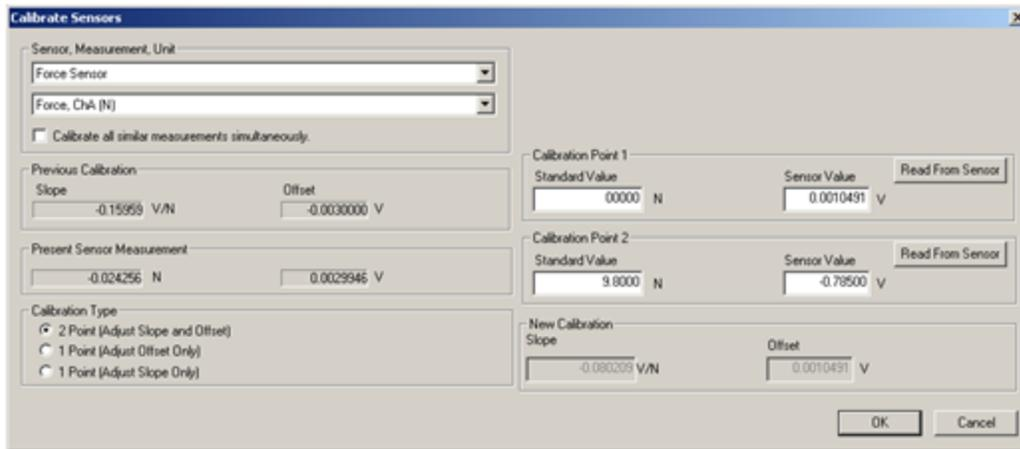

Figure 4: Calibration of force sensor in Data Studio
- 11 Before taking the actual data, calibrate the force sensor. Click the **Setup** button in the toolbar. Then click on the force sensor icon and press the **Calibrate Sensors** button. This brings up the calibration panel shown in Fig. 4.